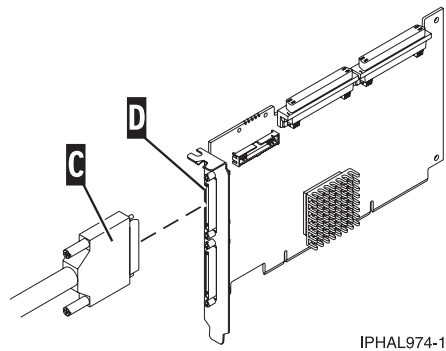

Figure 24. SCSI cable to a SCSI interface card
Connect the other end of the SCSI cable (C) to the SCSI adapter (D) on the server. For more details, see Figure 24.